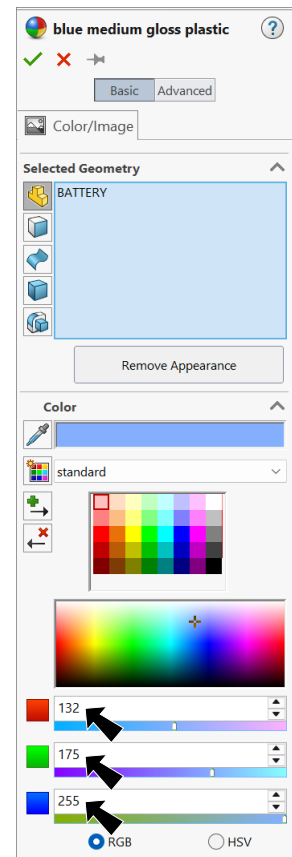

Fig. 73
Step 3. In the Appearances Property Manager, under Color, Fig. 73